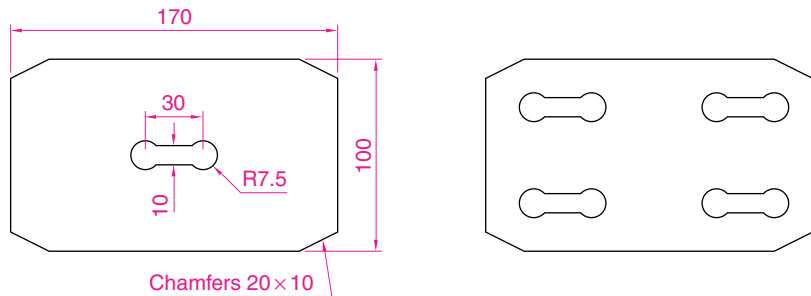

Fig. 5.52 Exercise 6
6. Construct the left-hand drawing of Fig. 5.52. Then, with **Move**, move the central outline to the top left-hand corner of the outer outline. Then with **Copy** make copies to the other corners.